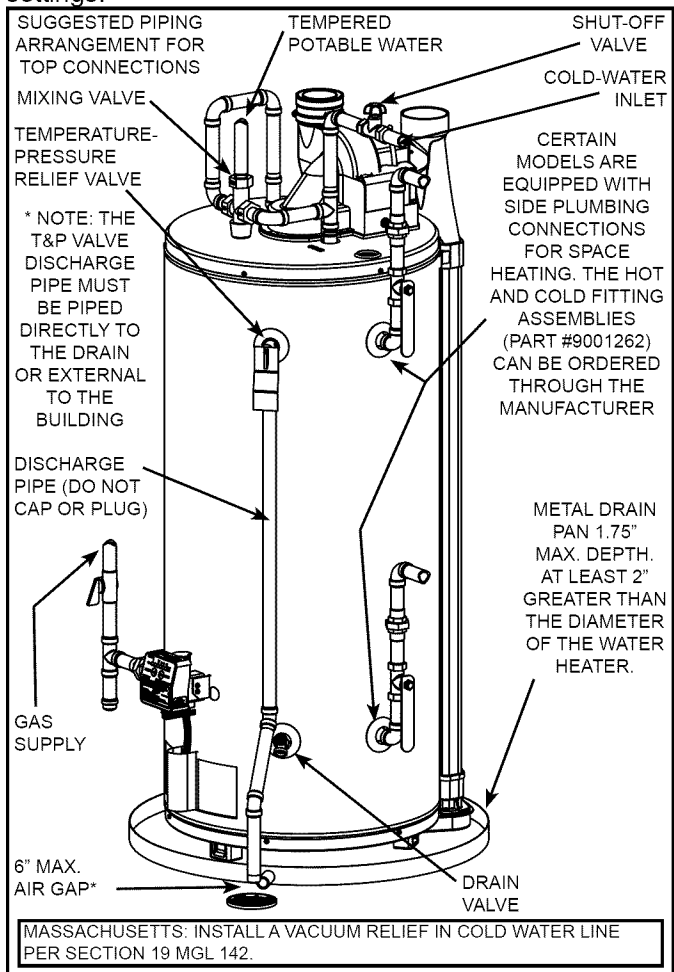
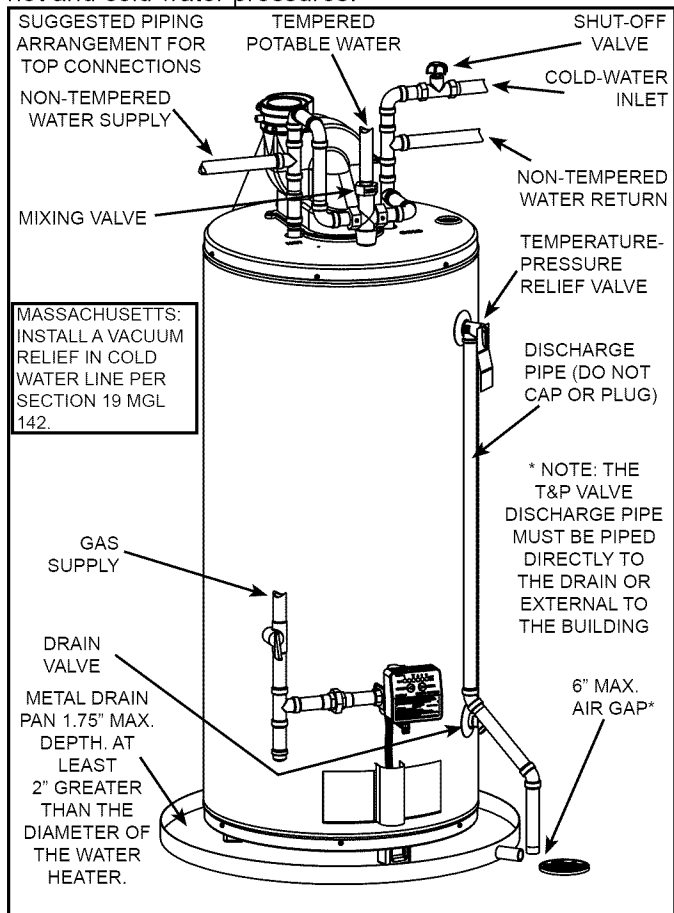

Figure 8.
Figure 9.
Models equipped with Combo Heating capabilities are shipped with the two side plumbing taps **OPEN** (items 18 and 20 in Figure 1 and see also Figure 8 & Figure 25). If the heater is to be operated without using the side taps, these openings **must be closed** with the two pipe plugs supplied with the heaters.
In addition to using lowest possible temperature setting that satisfies demand of application, a mixing valve should be installed at water heater (see Figure 8 & Figure 9) or at hot-water taps to further reduce system water temperature. Mixing valves are available at plumbing supply stores. Consult a Qualified Installer or Service Agency. Follow mixing valve manufacturer’s instructions for installation of the valves. Before changing the factory setting on the thermostat, read the “Operating The Temperature Control System” section in this manual.